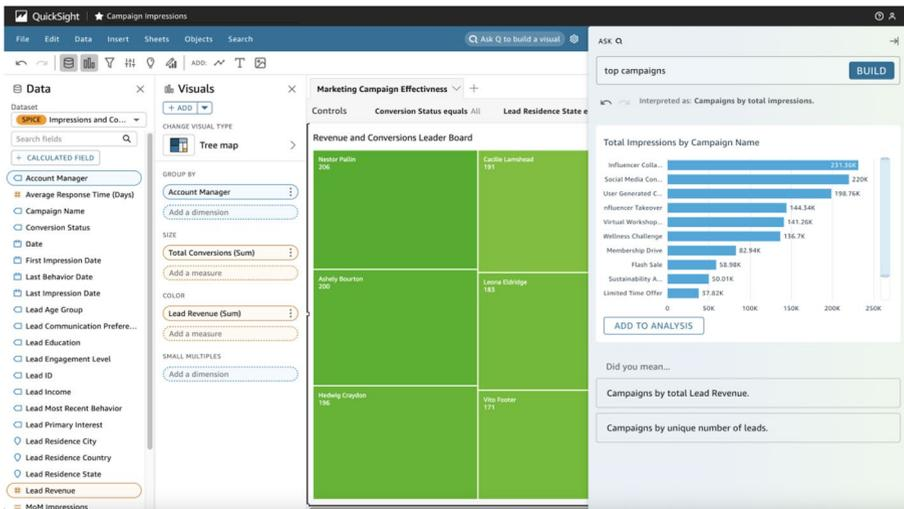

Figure 6-43. AI-accelerated dashboard authoring
- AI-accelerated dashboard authoring:** This feature (see Figure 6-43) helps business analysts quickly build dashboards and reports: